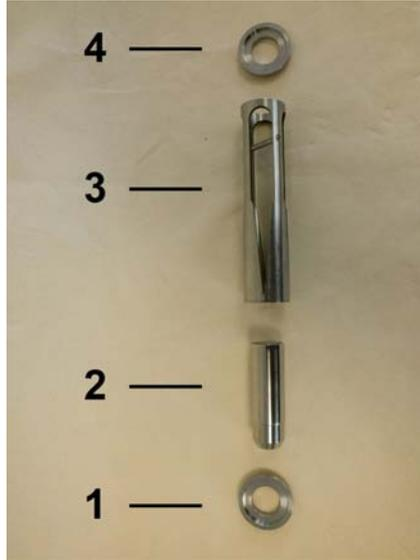

Fig. 45: Inner parts
6. The inner parts of the flow monitor consists of the centering disc (inlet) (Fig. 45/1), float (Fig. 45/2), slot nozzle (Fig. 45/3) and centering disc (outlet) (Fig. 45/4).